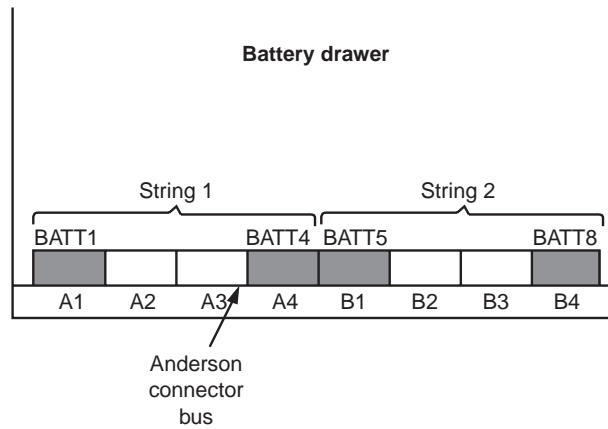

Figure 18. Battery Drawer Connector Locations
- 3 While facing the front of the battery drawer as shown in Figure 18 on page 26, locate the two center bus connectors (BATT 4 and BATT 5).